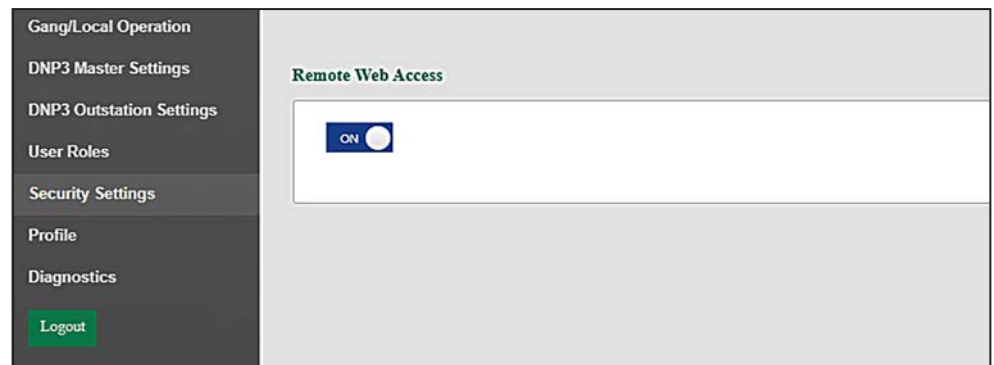

Figure 69. The Remote Web Access slide selector.
**STEP 2.** On the *Security Settings* screen, the **Remote Web Access** function must be set to the **On** position. See Figure 69.